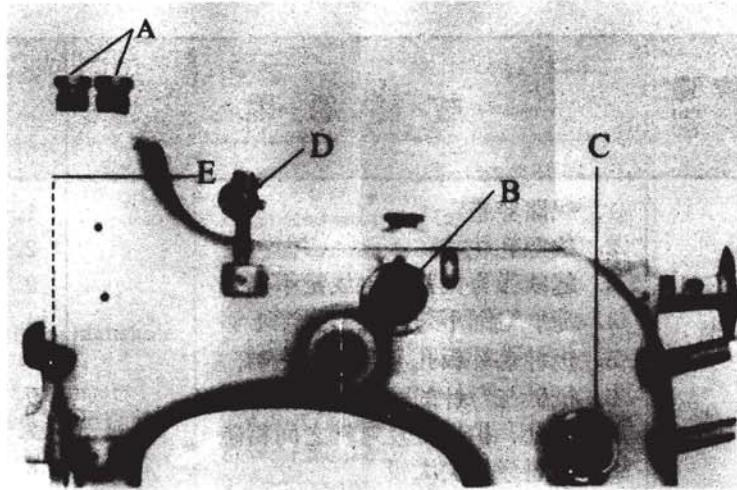

图 10 Fig.10
压脚压力的大小，取决于缝料的厚度，缝薄送料时顺减少压力；反之，则增大压力。当缝料推送顺畅，针迹均匀时切勿再增大压力，以缓减机件磨损。调节压力时旋进两只调压螺套（图10，A）可增大压力，旋出则减少压力。
缝线张力由夹线器(图10, B、C)调节，通常面线(B)张力要比底线(C)的张力大。旋进夹线器螺母(B、C)使张力增大，旋出则减少。
Thread tension is adjusted by thread tension assembly(B. C. Fig. 10). Tension of upper thread(B) is generally stronger. Than that of lower thread (C). Turn thread tensioner nut (B. C)in to increase the tension, turn It out to decrease the tension. If the stitch is still not good, should adjust the height of thread adjusting bar (D). The height of the thread adjusting bar (D) is at the same level with the thread eye of the needle bar connection at its highest poition.